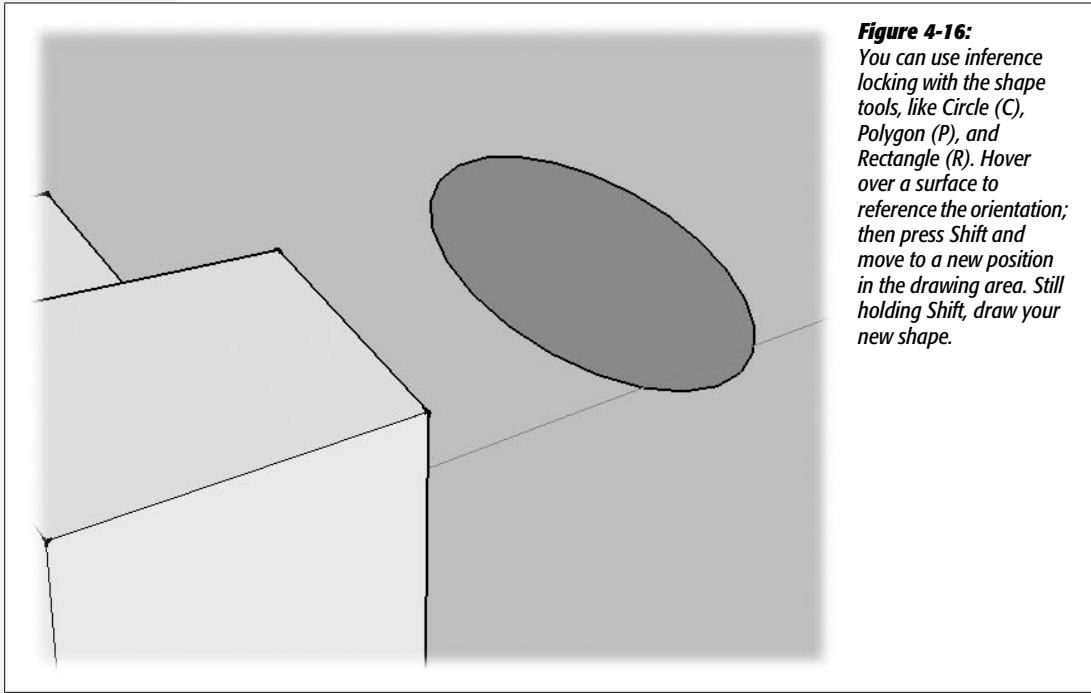

Figure 4-16:
then click-move-click to draw the shape in mid-air, away from the house model. When you're done, it should look something like Figure 4-16. The shape should be oriented to the same slope as the roof. Use the Orbit (O) tool to maneuver around and see the shape from different angles. If you want some more practice, draw shapes with the Rectangle and Polygon tools that are aligned to some of the other surfaces of the house.